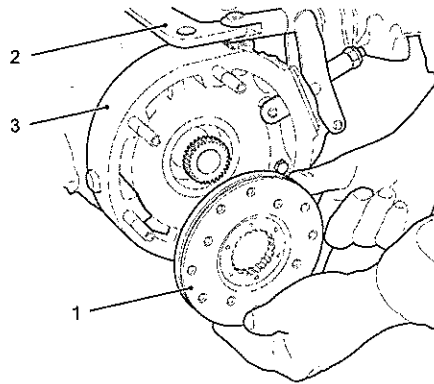

Fig 21 Remove lining discs and brake housing
- 54 Remove rear lining disc (see Fig 21 (1)).